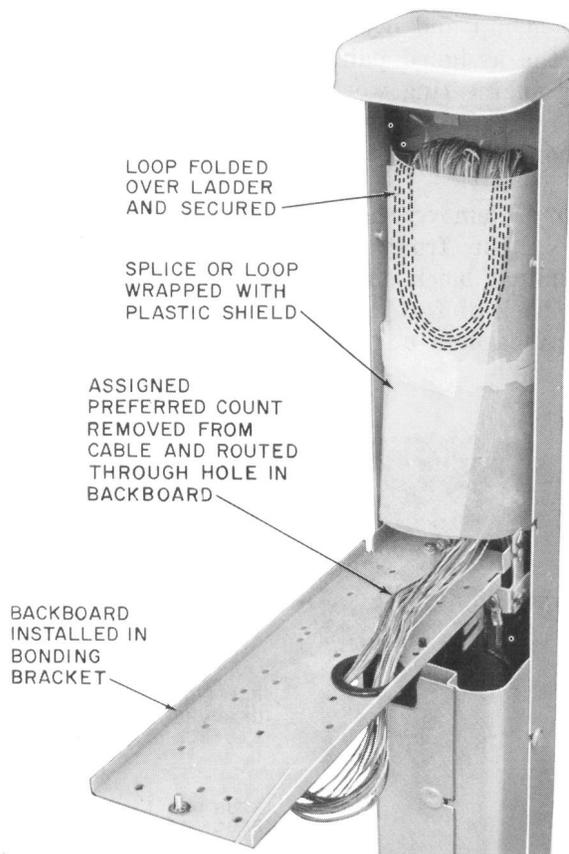
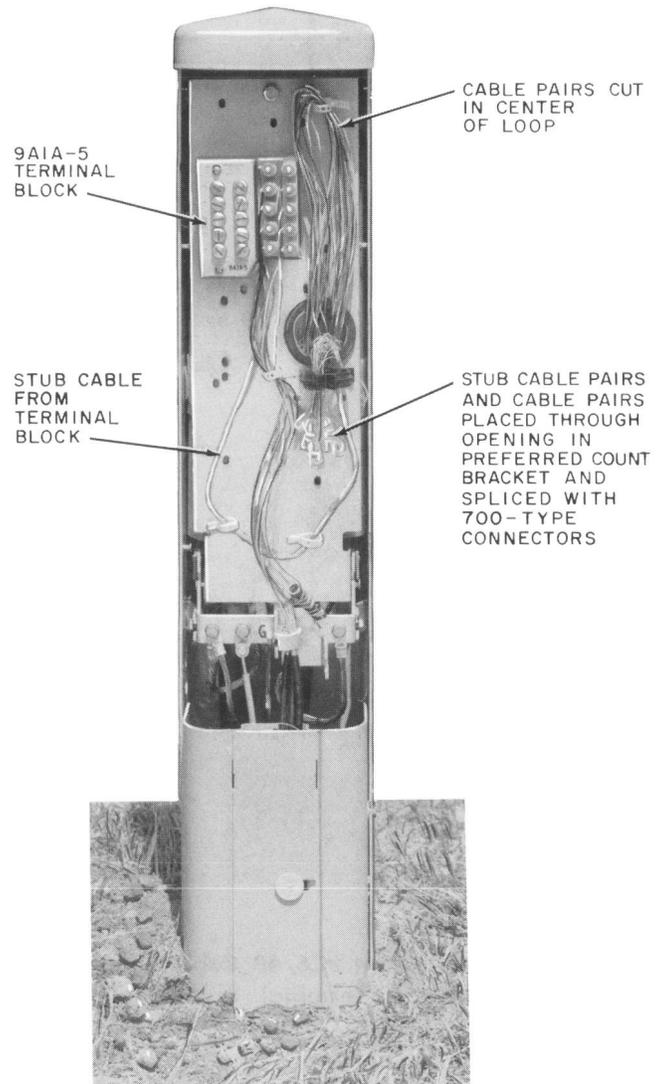

Fig. 16—Installed Backboard in PC6/48 Cable Closure—Typical for PC12/55 Cable Closure
Fig. 17—Preferred Count PC6/48 Cable Closure With Protected Terminal Block—Typical for PC12/55 Cable Closure
6.01 From the looped cable remove the assigned preferred count from the cable then wrap the other binder groups with the plastic shield (Fig. 16).
6.02 Install backboard on bonding bracket hinges as shown in Fig. 16. Route the assigned preferred count binder group through the hole in the backboard. A 9-type terminal block is then mounted on the backboard (Fig. 17). Secure the backboard in the upright position. Attach bonding braid of backboard to bonding bracket.